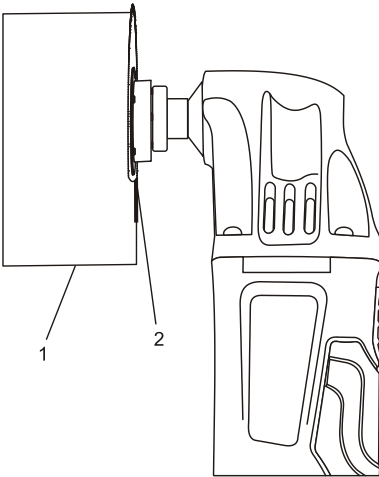

Fig. 8
3. Place the outlet box on the drywall and use a soft lead pencil to trace the required rectangular hole (1) on the drywall (Fig. 8).